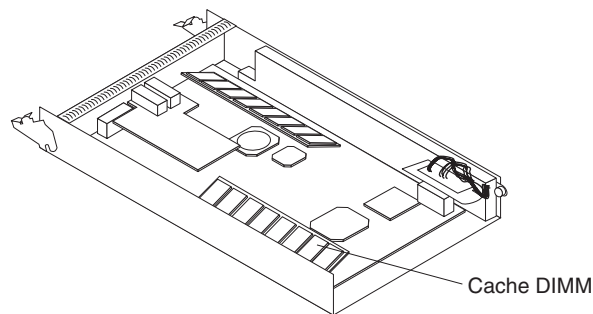

Figure 27. Removing the RAID cache DIMM
- a. Open the retaining clip on each end of the RAID cache DIMM connector. Figure 27 shows the cache DIMM you will replace.
- a. Open the retaining clip on each end of the cache DIMM connector. Figure 27 on page 45 shows the cache DIMM that you will remove.